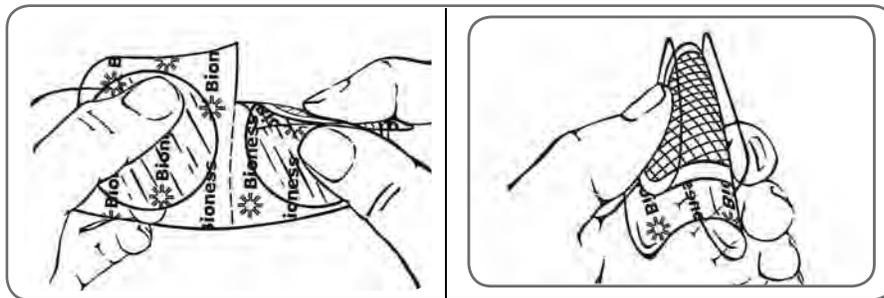

Figure 10-1: Separating the regular hydrogel electrodes and splitting the two-piece covers.
3. Separate the two new hydrogel electrodes along the perforation. See Figure 10-1.
4. Split the two-piece covers on each electrode and discard them. See Figure 10-1.